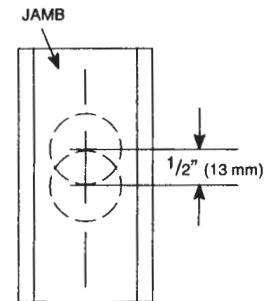

Figure 9-1
- See Figure 9-1. Drill two (2) 1" (25 mm) holes 1" (25 mm) deep in jamb.